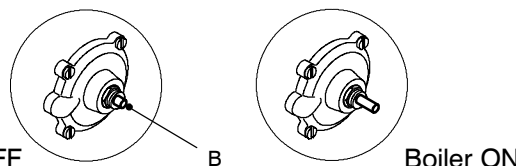

Fig. 48
- 3 Looking through the switch box verify the position of the shaft B referring to Fig. 48.